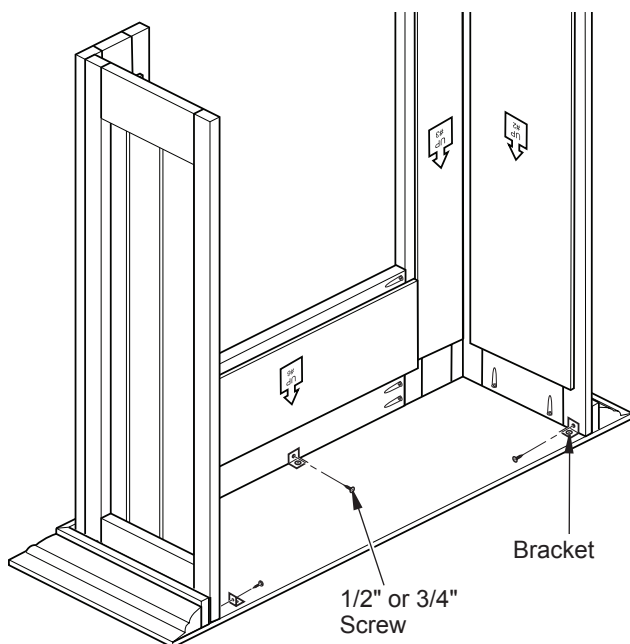

Figure 6 - Adding Brackets to Mantel Top
6. Attach supplemental brackets using 1/2" or 3/4" screws provided in bracket hardware pack. Use 3 brackets to attach top to mantel assembly - one at back of each leg assembly and one at center of header (see Figure 6, page 3).